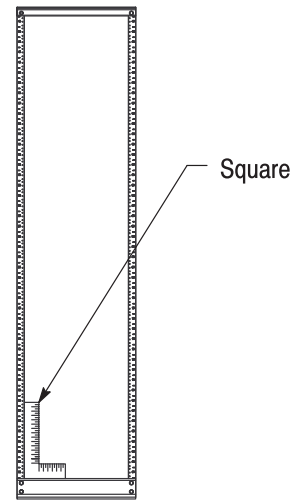

Figure 3
5. Stand rack up and square as shown in Figure 3. Tighten all fasteners to 27.12 Nm [20 ft-lbs] of torque maximum.